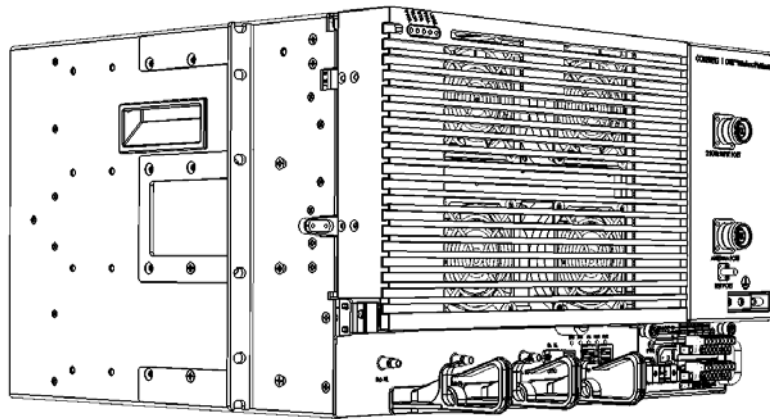

Figure 4-12. Required Position of MRU Rack Ears
1. Remove each rack ear and reassemble according to position shown in Figure 4-12.